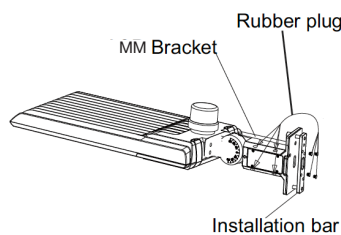

Fig. 15
1. Remove the four bolts from the MM bracket, remove the four rubber plugs from installation bar, put the four rubber plugs on the place where the four bolts were previously placed on the bracket for waterproofing (Fig. 15)